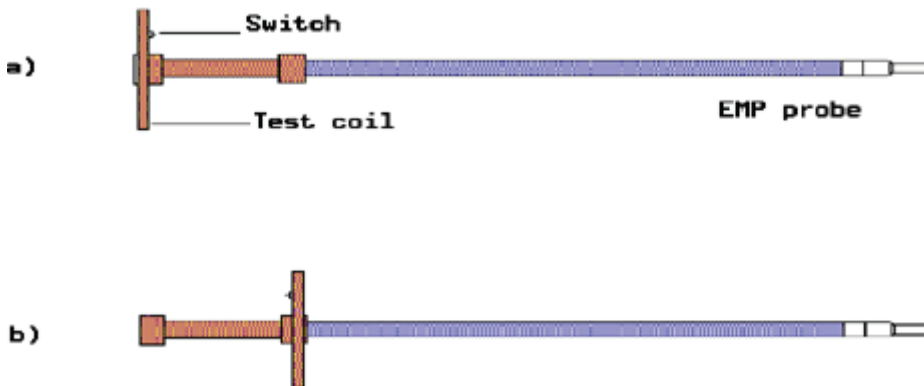

Figure 2 Calibration Set-up with Geonics Test Coil
- 10) Place the calibration ring on the probe as shown in Figure 2.